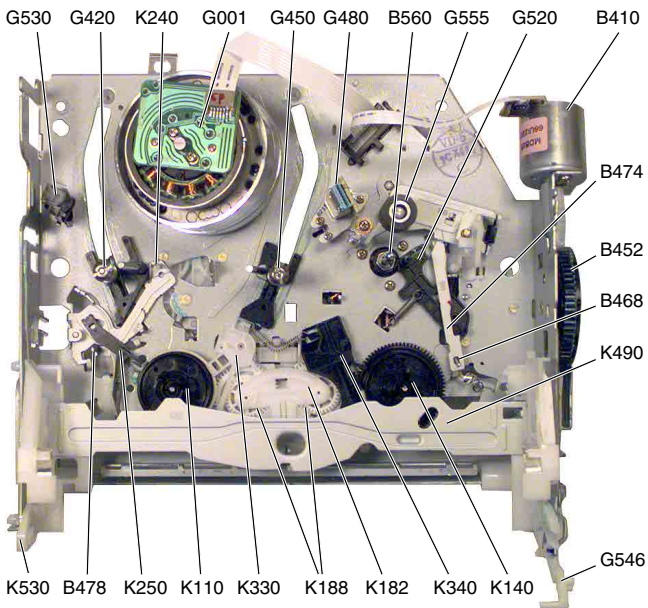
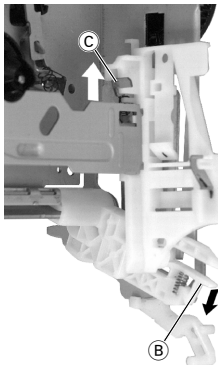

Fig. 1
Fig. 4
- Tense the spring-loaded lift lever (B) (Fig. 4), release the catch (C) then remove the cassette lift (K490, Fig. 1).
- Tense the spring-loaded lift lever (B) (Fig. 4), release the catch (C) then insert the cassette lift into the right guide of the lift lever.